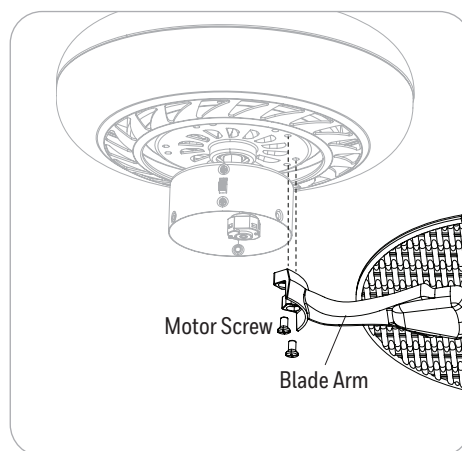

Figure 4.5
5. Install the blade arm to the underside of the motor assembly using the ten previously removed motor screws (Figure 4.5). **To INSTALL THE FAN WITHOUT THE LIGHT KIT**, skip to page 8.